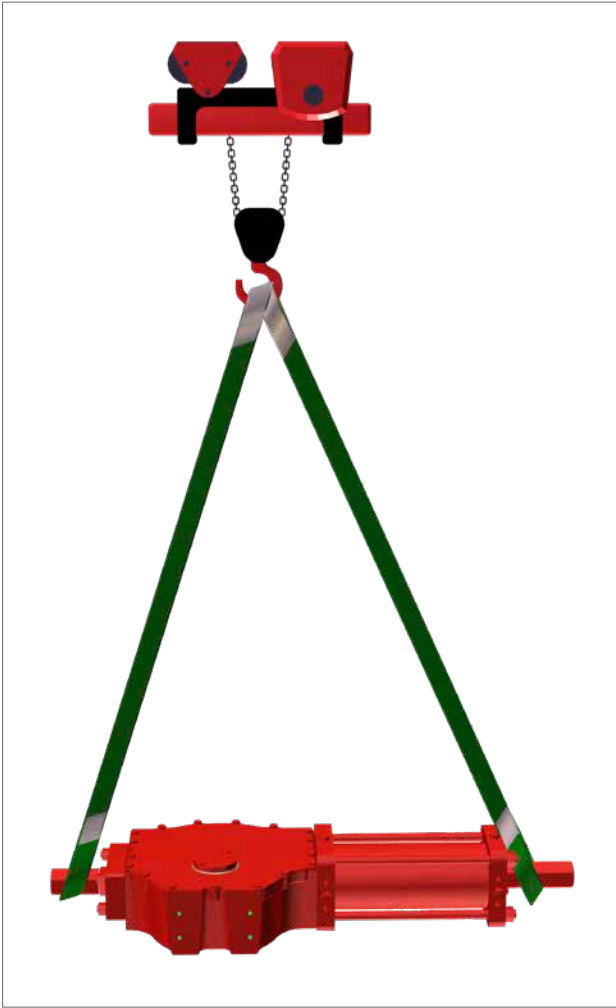

Fig 7.2 Lifting (double-acting actuator up to size 161)
- In case of double-acting actuator, hook a double textile sling on the lifting lug on the hydraulic cylinder and a textile sling on the centre body closure flange as shown in Fig 7.2